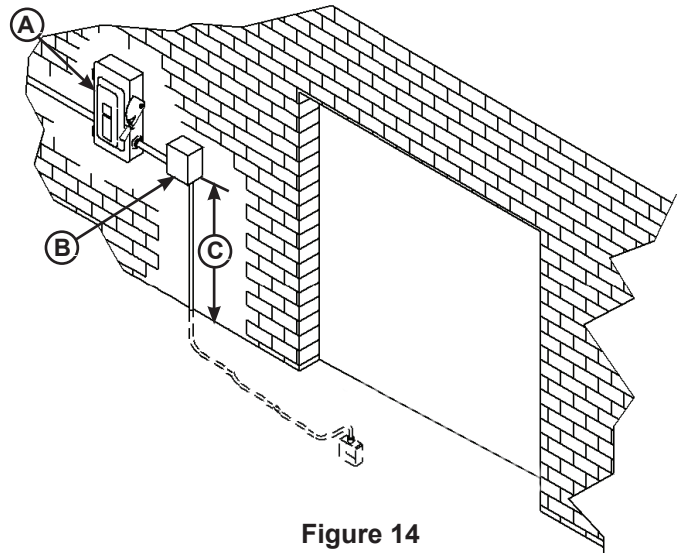

Figure 14
1. If wall-mounting, mount the push-button control panel (**B**) so bottom of control panel-to-dock floor distance (**C**) is approximately 48 in. (1219 mm). See Figure 14. If stanchion-mounting, mount control box to stanchion in desired location.